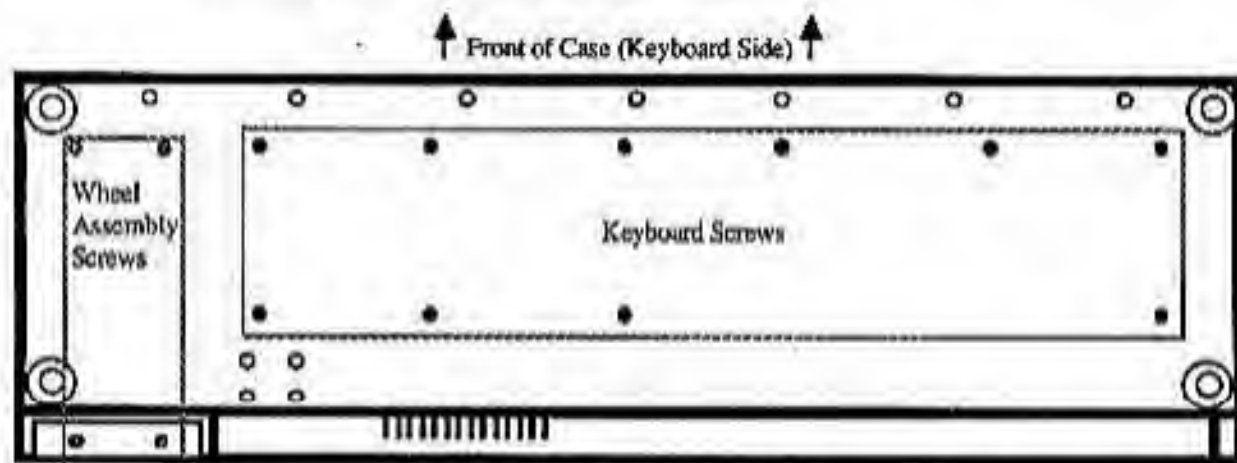

FIGURE 4 - Bottom of Case
4. Place the unit upside down on a soft surface and remove the ten (10) screws that attach the keyboard to the case. See Figure 4 for location of screws.
10. Turn the unit upside down on a soft surface and replace the ten (10) screws that secure the keyboard to the case.
11. Install the metal shield over the main board and replace the six (6) screws fastening it to the case and keyboard frame. Be sure to attach the ground jumper, if present.
2. Remove the four (4) screws that fasten the control panel, and raise the panel.
3. Place the unit upside down on a soft surface and remove the four (4) screws that attach the wheel assembly to the case. See Figure 4 for location of screws.
7. Remove the four (4) screws and lock washers that attach the Disk Drive to the wheel assembly.
3. Turn the unit over, top down, and remove the four (4) screws that attach the wheel assembly to the case. See Figure 4 for location of screws. Return the unit to an upright position. Carefully lift the wheel assembly out of the case.
5. Remove the two (2) screws and lock washers that attach the metal plate to the bottom of the Disk Drive. Remove the four (4) screws and lock washers that attach the Disk Drive to the wheel assembly.